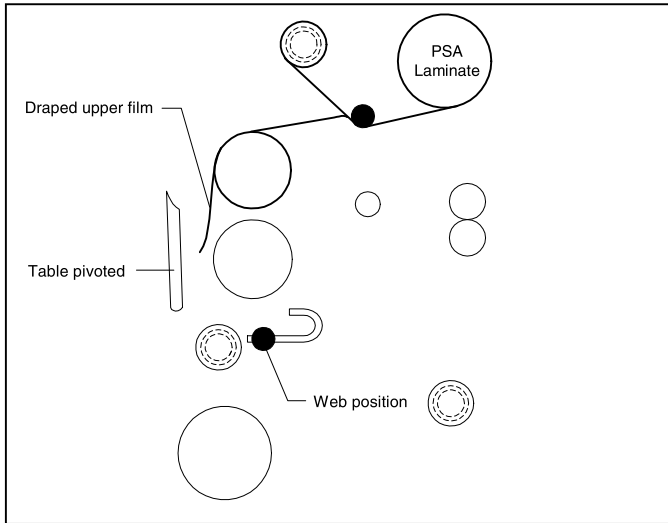

Fig. 28
5. Make two full wraps around the rewind tube, then carefully score the laminate without cutting the release liner. Pull the laminate down allowing it to drape over the upper heat roller (Figure 28).